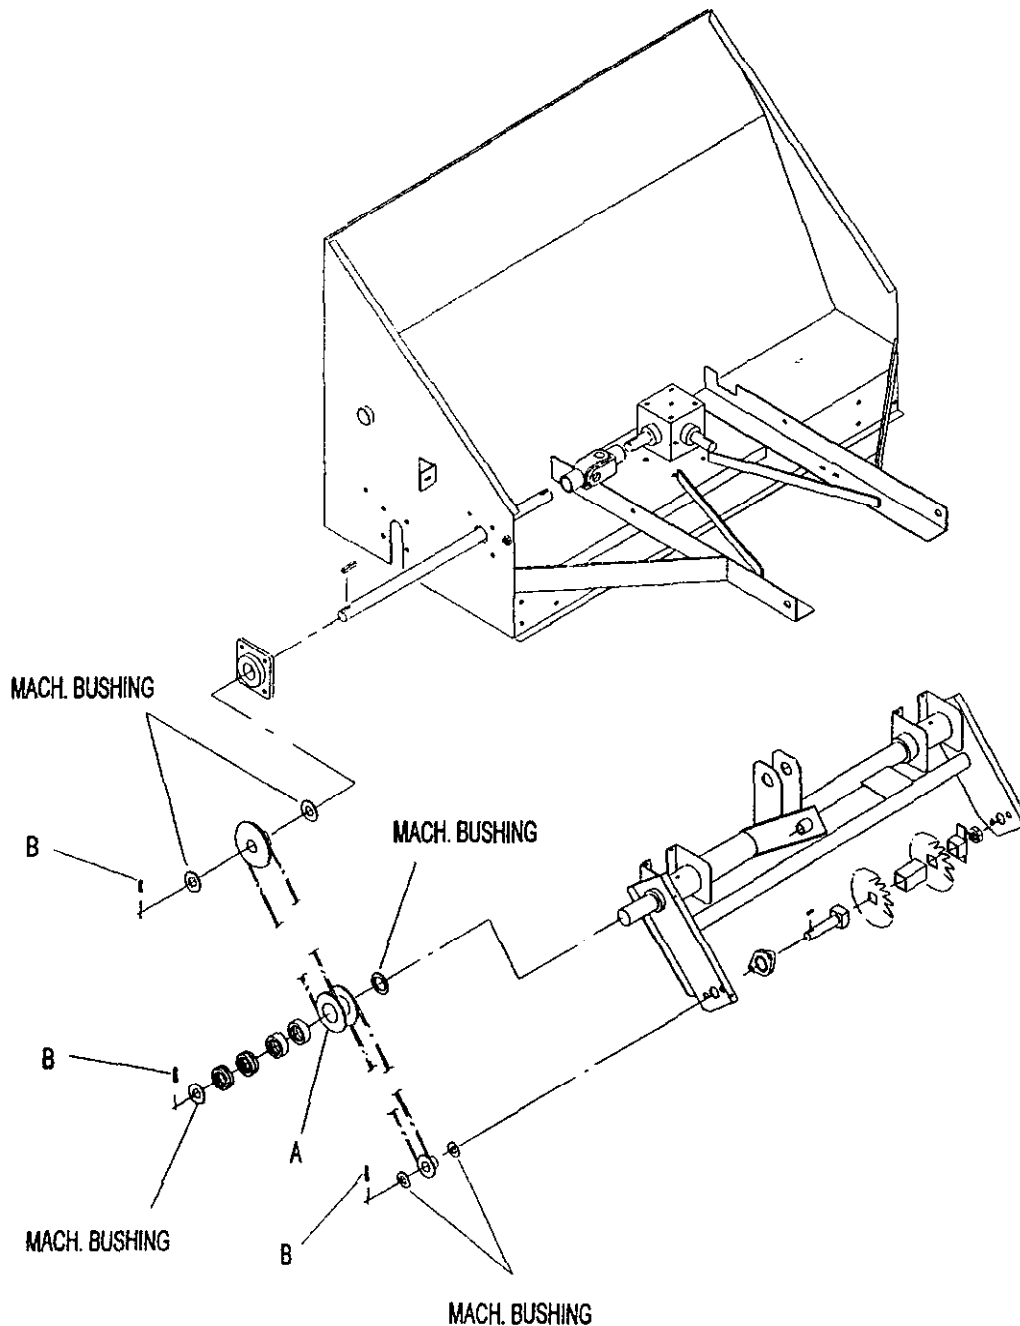

Figure 4
5. (FIG. 4) Assemble the gear train of the thacher. Note the relative positions of the gears and chains. Item A (sprocket) has a grease zerk which must go to the outside. After the gears are placed on the shafts with the keys, a 3/16" hole must be drilled in the shafts to accommodate cotter pins (item B). Space machinery bushings out to the hole to keep the sprocket from moving outward.